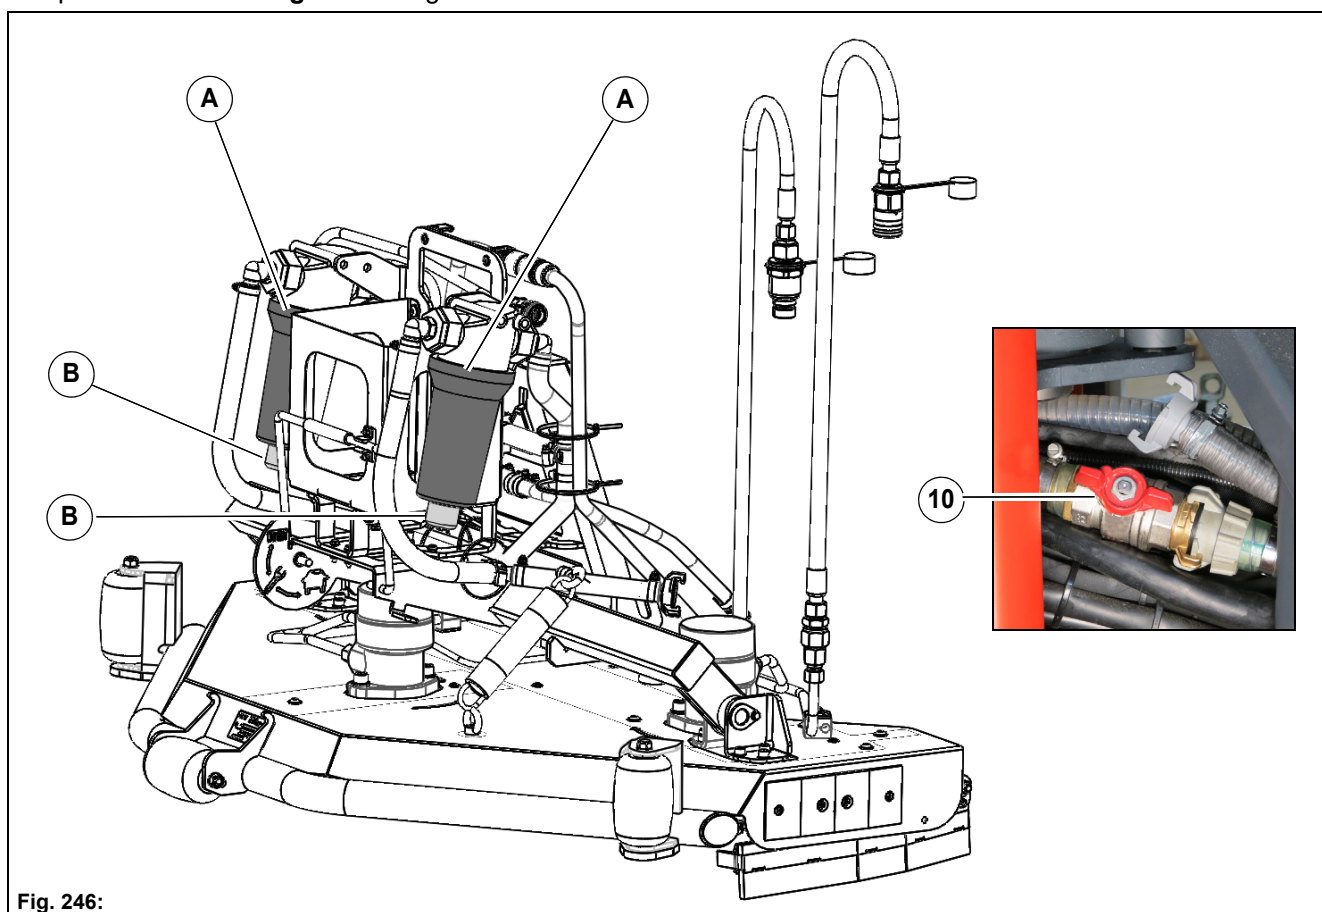

Fig. 246:
Check the filter inserts of both circulating water filters **Fig. 246-A** after each use. Clean them if required.
2. Unscrew the locking cap **Fig. 246-B** and flush with circulating water until the water jet is clear.
2. Unscrew the circulating water filter **Fig. 246-A**.